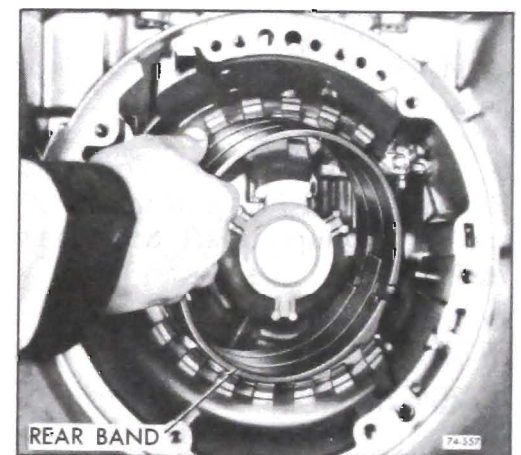

Figure 76-557
22. Remove rear band assembly. See Figure 76-557.